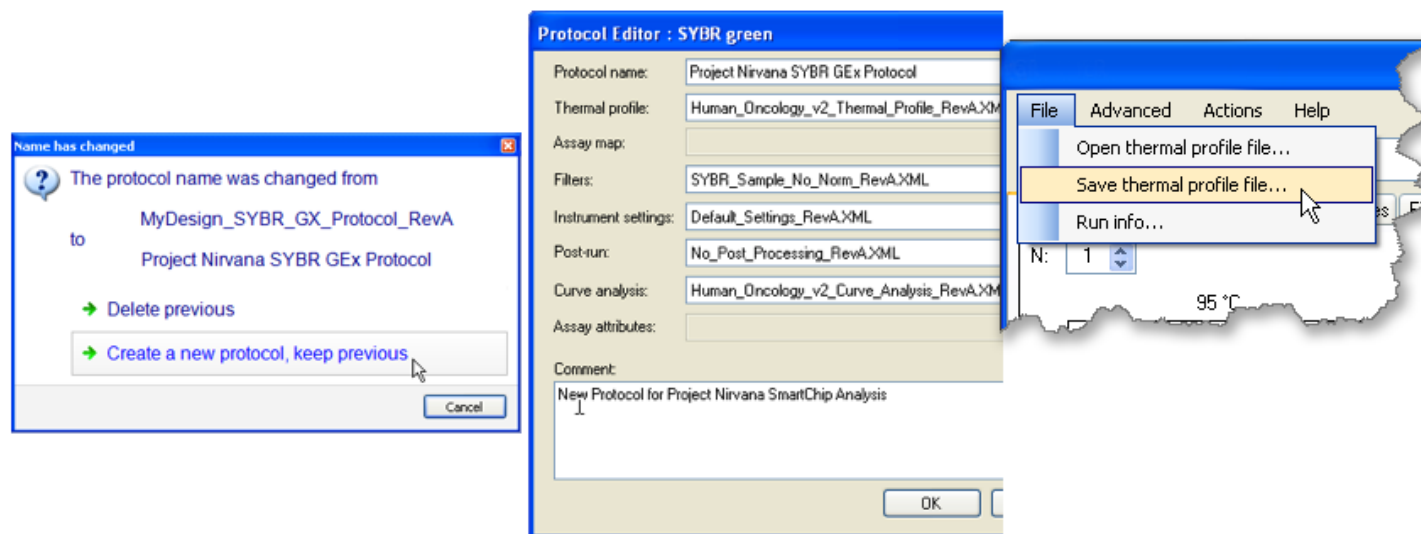

Figure 20. Renaming and saving the new protocol.
- c. Rename the protocol as desired in the “Protocol name” field. This will open a *Name has changed* window. We recommend that you choose to **Create a new protocol, keep previous** (Figure 20). This preserves a copy of the default MyDesign gene expression profile on your computer. Close the *Protocol Manager* window by clicking the red [X] icon in the upper right corner.
- ii. Save the modified thermal profile by choosing **Save thermal profile...** from the **File** drop-down menu. Name the file logically (e.g., “Project Nirvana thermal profile” in the example in Figure 20) and click [Save].